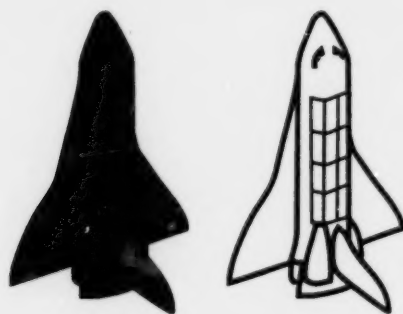

Figure 10 - Graphic Design
3. Tape your design to a cutting surface such as cardboard or a special cutting mat. Center a piece of freezer paper (9" x 12"), coated (shiny) side up, on top of your design and tape in place. (See Figure 10).